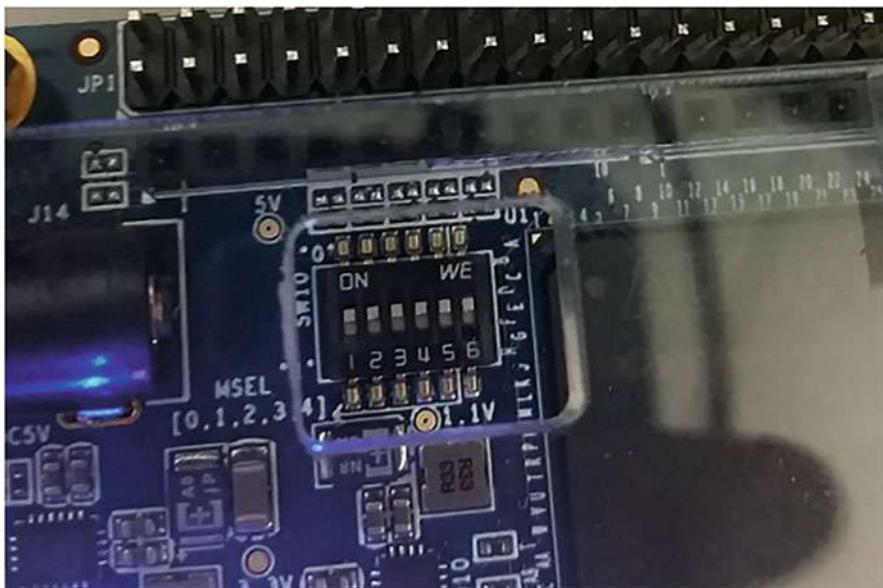

Fig. 4.7: The switch SW10 setting (FPPx16) used in the book when running Ubuntu on the DE10-Nano board. All the switches are in the “ON” position
**Mode 2: FPPx16.** This stands for Fast Passive Parallel x16 mode (no compression). **This is the mode we will use in this book for running embedded Linux (Ubuntu) on the DE10-Nano board.** In this mode, all the switches on SW10 need to be up in the zero (ON) state as shown in Fig. 4.7